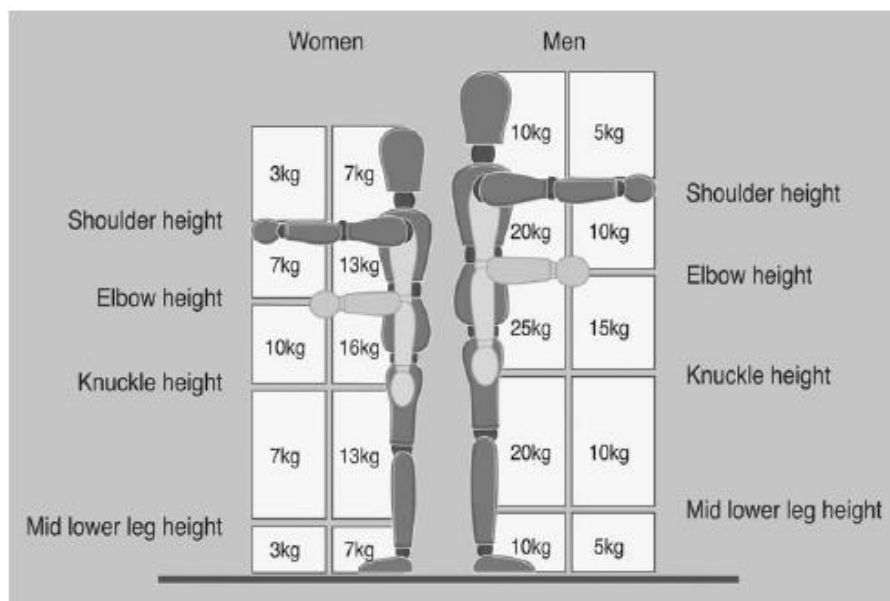

Figure 1. Guideline weights issued by the Health and Safety Authority.
- Risk assessments must be carried out on manual handling tasks normally performed by staff. As a rule of thumb an assessment is required where weights are above the guideline weights set out by the Health and Safety Authority and reproduced overleaf in figure 1. The assessment should be in writing and set out on form 1 Manual handling assessment attached to this procedure.